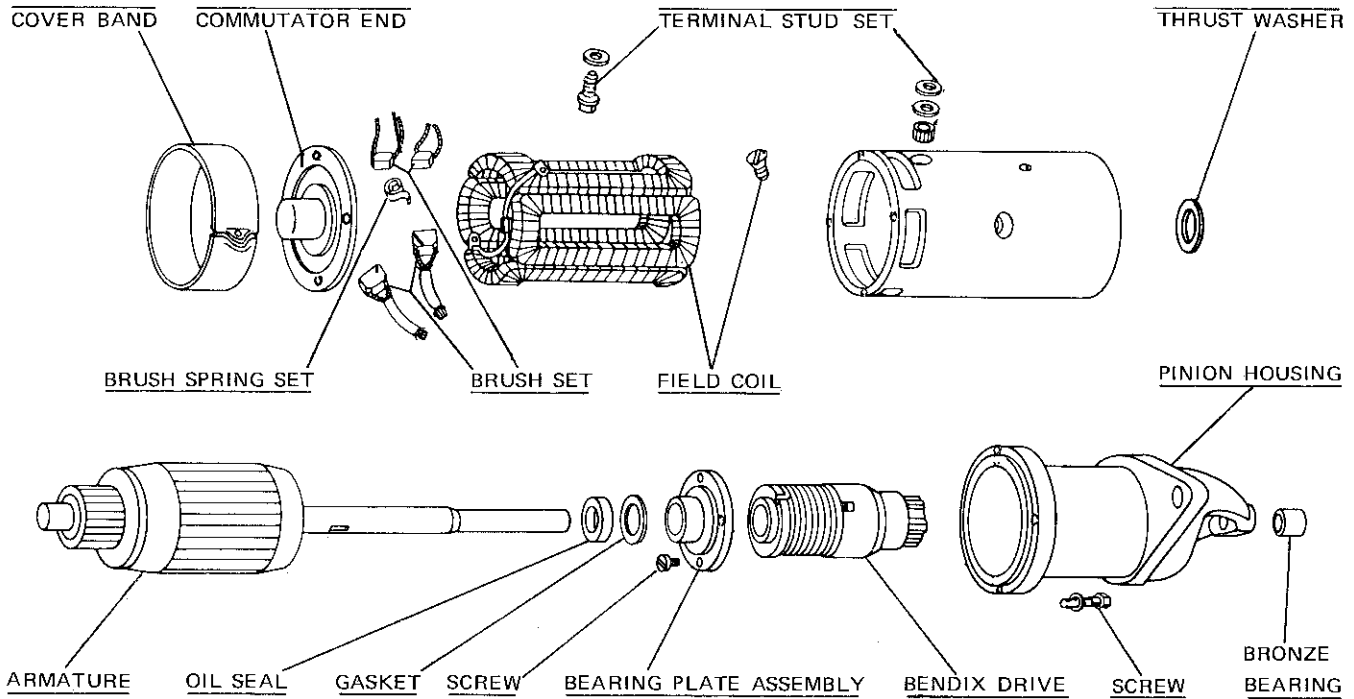

Figure IV-40 Starting Motor Assembly
J. STARTING MOTOR OVERHAUL (figure IV-40).